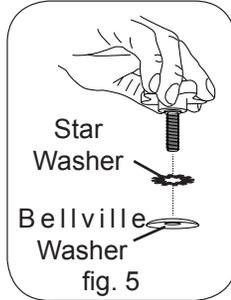

fig. 5
8. Place the star washer on the hand knob, then the bellville washer convex side up, and screw the hand knob into the threaded hole (figs. 5 and 6).